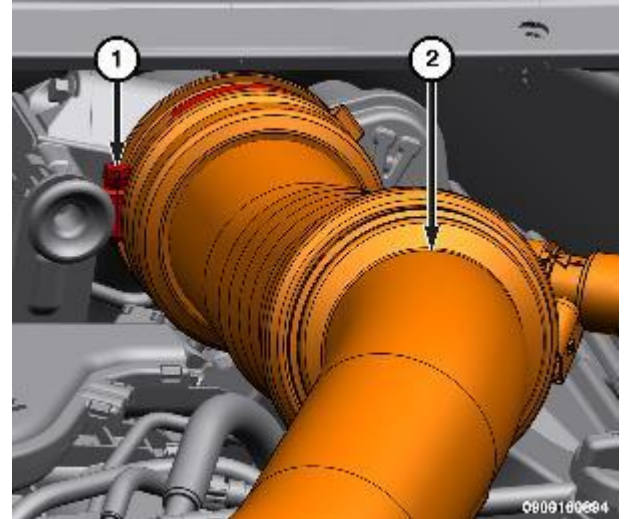

Figure 183 – Clean Air Hose at Turbo
- 18. Loosen clean air hose clamp (1) and remove the clean air hose from the turbocharger elbow (Figure 183).